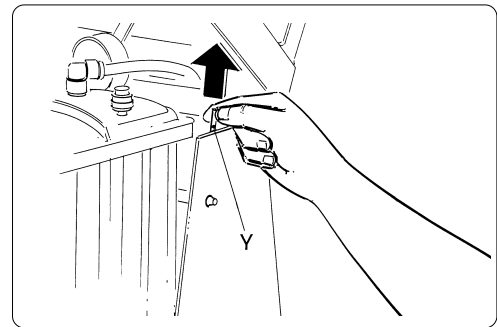

Fig. 28
- c) Remove the safety/locking pin (Y) by pulling it upwards (fig. 28).